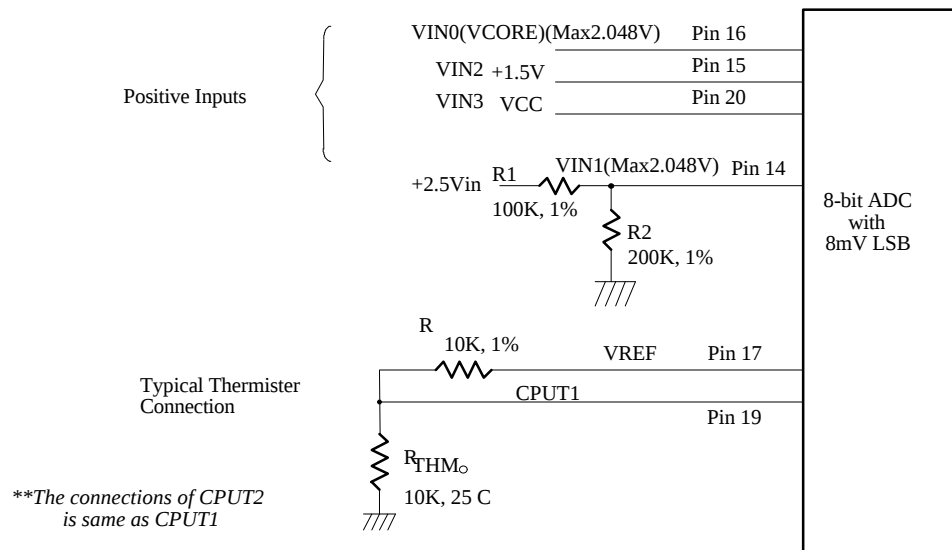

Figure. 3.
The maximum input voltage of the analog pin is 2.048V because the 8-bit ADC has the 8mv LSB. Actually, the application of the voltage monitoring would most often be connected to power suppliers. The +1.5V voltage can directly connected to these analog inputs. The +2.5V and CPU VOCRE, the inputs higher than 2.048V, should be reduced a factor with external resistors so as to obtain the input range. As Figure 3 shows.
The W83L785R can connect two thermistors to measure three different environment temperature or remote temperature. The specification of thermistor should be considered to (1) β value is 3435K, (2) resistor value is 10K ohms at 25°C. In the Figure 3, the themistor is connected by a serial resistor with 10K Ohms, then connect to VREF (pin 17).